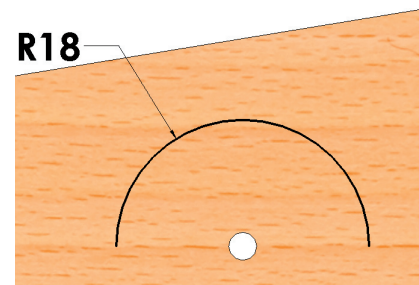

Fig. 4
- Step 6. Click **Fully Defined Sketch**  (D) on the Sketch toolbar and OK  in the Property Manager.
- Step 7. **Dimension arc 18**, **Fig. 4**. The front wheel diameter is 34.7 mm. We're setting the cutout radius to slightly larger than 1/2 the wheel diameter.